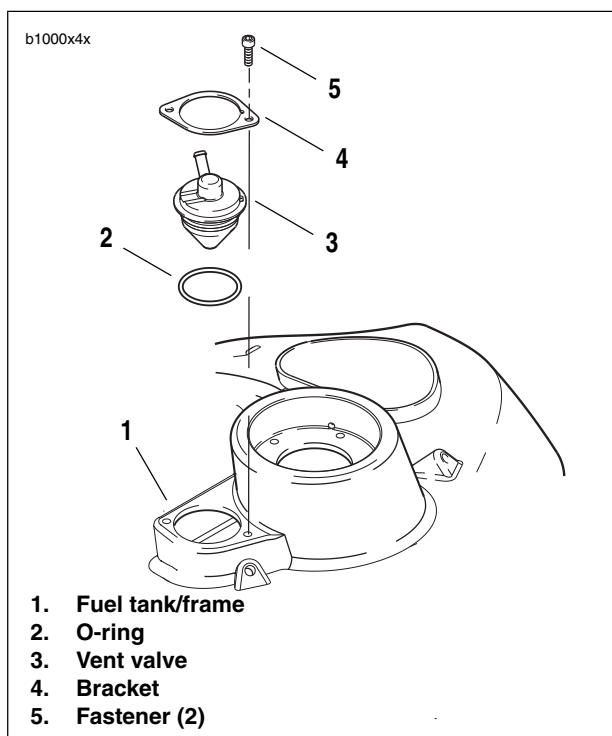

Figure 4-95. Fuel Tank Vent Valve
3. See Figure 4-95. Remove vent valve fasteners (5).
4. Remove bracket (4), vent valve (3) and o-ring (2) from fuel tank/frame (1).
1. See Figure 4-95. Install **new** vent valve o-ring (2).
2. Install vent valve (3) into fuel tank/frame. Vent valve nozzle should be at approximately the 7:00 position.
4. Loosely install vent valve fasteners (5).